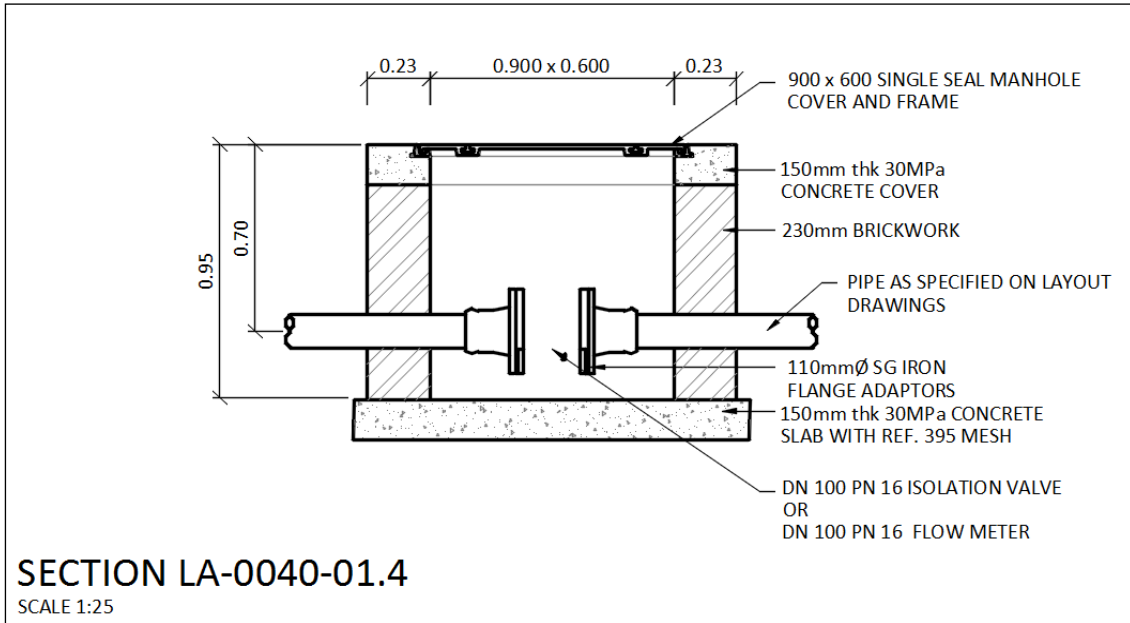

Figure 42: Typical Valve/Flow Meter Manhole Chamber Detail
- Figure 42: Typical valve/flow meter manhole chamber detail.